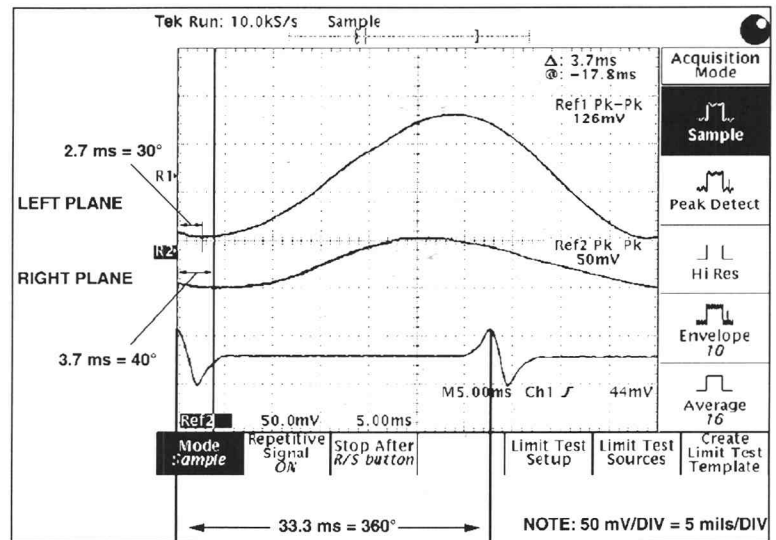

Figure 8.
measure the time between the first and second rotational markers as shown in Figure 8. In this case, we see that the measured period is 33 ms.
Figure 8 shows the left and right plane outputs at 50 mV/div. The transducer sensitivity is 10 mV/mil, therefore, the displayed sensitivity is 5 mils/div. Therefore, the left plane displacement is 12.5 mils, and the right is 5 mils.
- c. Next, determine the left plane and right plane angles. In this case, the rotor is running well below its first resonance frequency, so measurements are taken from the 0° reference marker to the first *negative* peaks. (If the rotor were running above resonance, the measurement would be taken to the first *positive* peaks.) Figure 8 shows 30° for the left plane and 40° for the right.